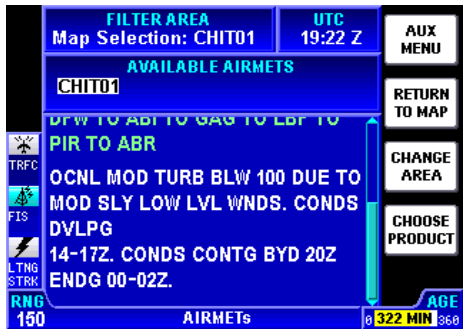

Figure 2-37
5. Press the **MORE INFO** Softkey to display the Text AIRMET Page for the displayed location as in Figure 2-37.